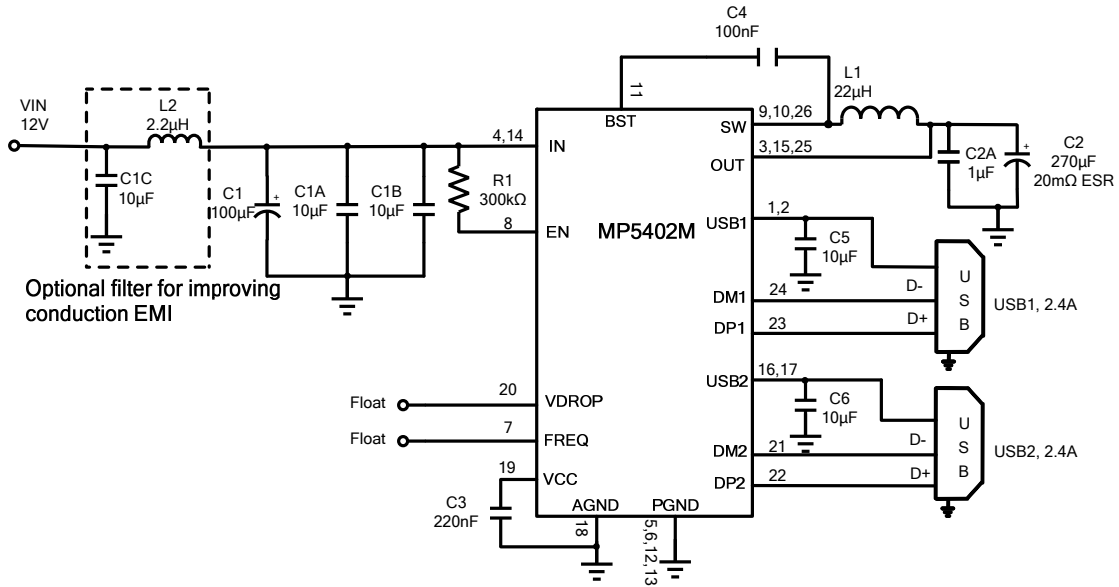

Figure 6: USB1 = 5V/2.4A, USB2 = 5V/2.4A
8) The recommended layout is based on the typical application circuit on the next page (see Figure 6) .